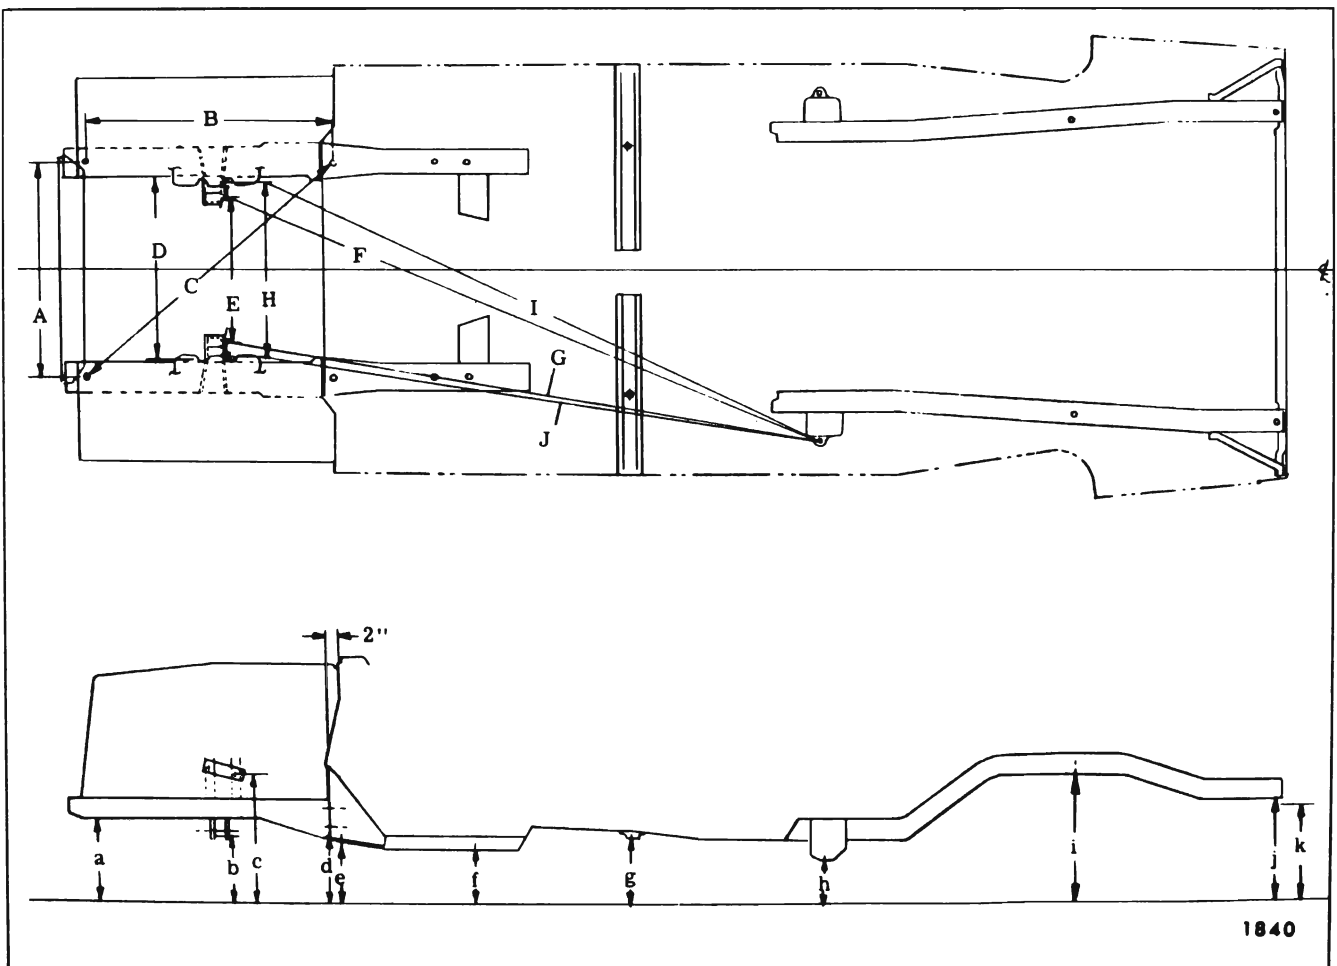
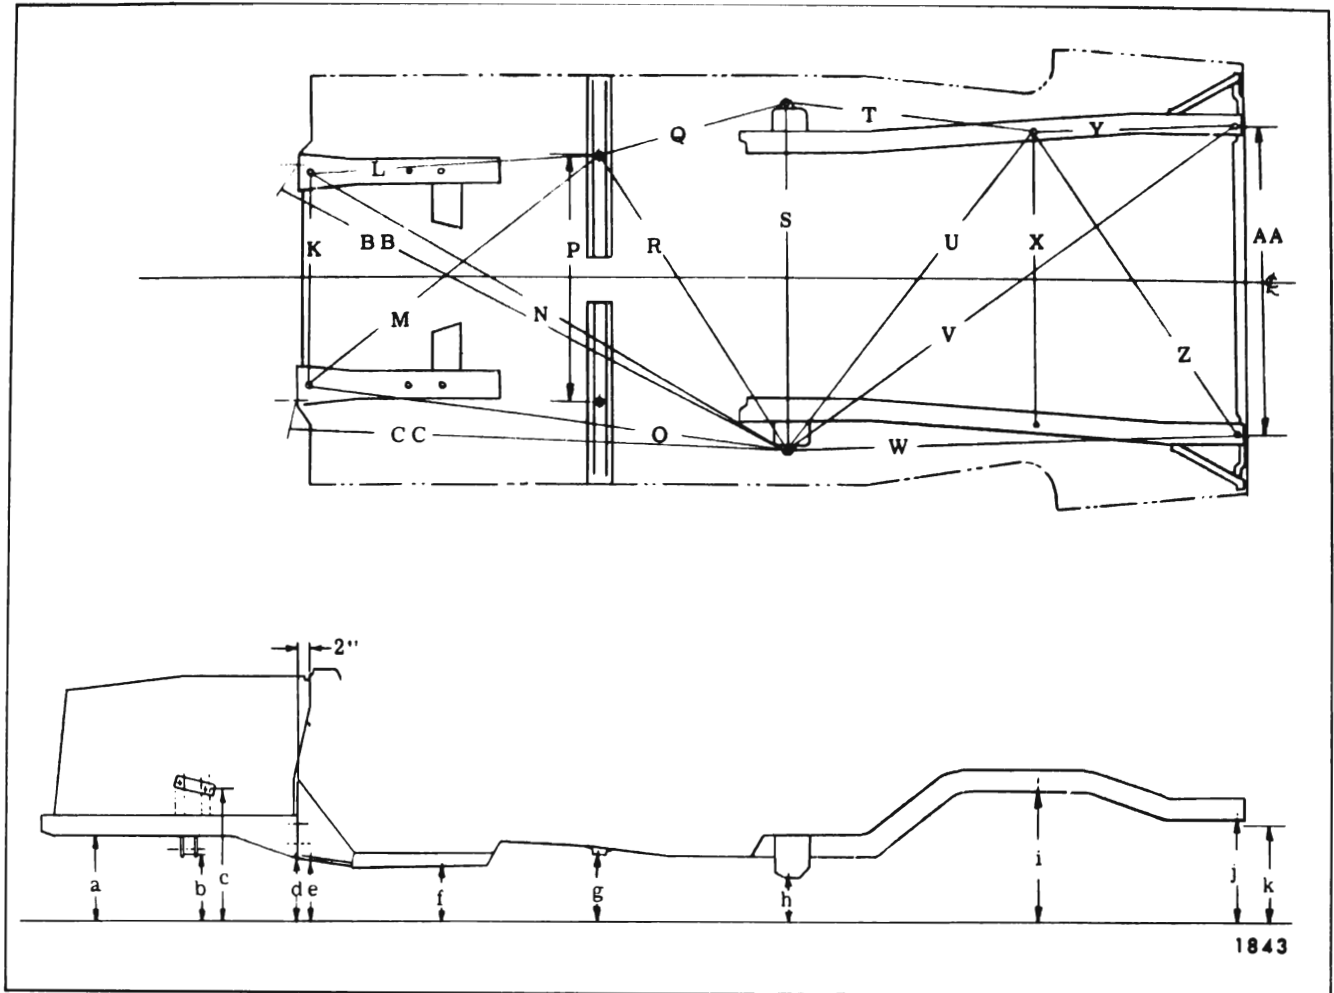

Fig. 3-7—Horizontal and Vertical Dimensions (Front Skirt Assembly)
Fig. 3-8—Horizontal and Vertical Dimensions (Body Assembly)
CAUTION: Do not change skirt assembly-to-dash shimming in an effort to adjust the door-to-fender gap or any other sheet metal appearance item. These shims regulate the front end assembly relationship to the body and should only be used to correct dimensions as shown in Figures 3-7 and 3-8.
Horizontal dimensions shown in the upper portion of Figures 3-7 and 3-8 are calculated on a plane parallel to the plane of the underbody. Precision
- b. The vertical dimension from the datum line to the points to be trammed. As an example, the diagonal measurement (calculated on a horizontal plane) between reference points of dimension line "N", shown in Figure 3-8, is 78 25/32 inches. The specifications from the datum line have a vertical height difference of 3 5/16 inches between the forward location of dimension "N" (at vertical dimension "e") and the rearward location of dimension "N" (at vertical dimension "h"). The vertical pointer used at the forward location should be positioned so as to extend 3 5/16 inches further from the tram bar than the pointer used at the rearward location. With the proper settings the tram bar will be on a plane parallel to that of the body plane. The exception to this would be when one of the reference locations is included in the misaligned area; then the parallel plane between the body and the tram bar may not prevail. After completion of the repairs, the tram gage should be set at the specified dimension to check the accuracy of the repair operation.
Underbody Alignment Reference Point Dimensions (Figures 3-7, 3-8, and 3-9)
Figure 3-7 specifies dimension reference locations required for alignment of front end skirt assembly and for alignment of front end skirt assembly to body assembly. Figure 3-8 specifies
Vertical Dimensions (Complete Underbody) (See Figure 3-8 and 3-7)